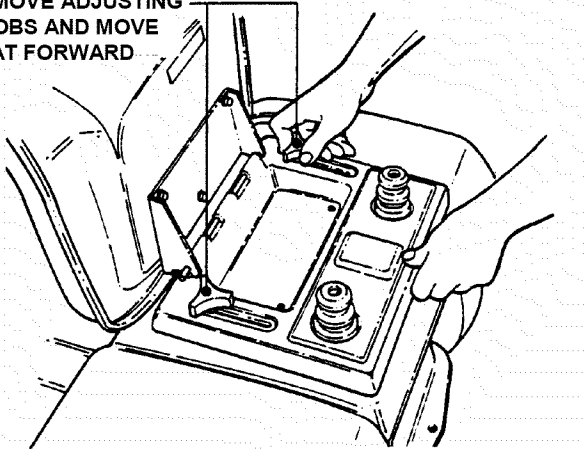

FIGURE 4.42
3. Remove seat assembly and move forward. Use care not to disconnect wires from seat switch. See Figure 4.42.